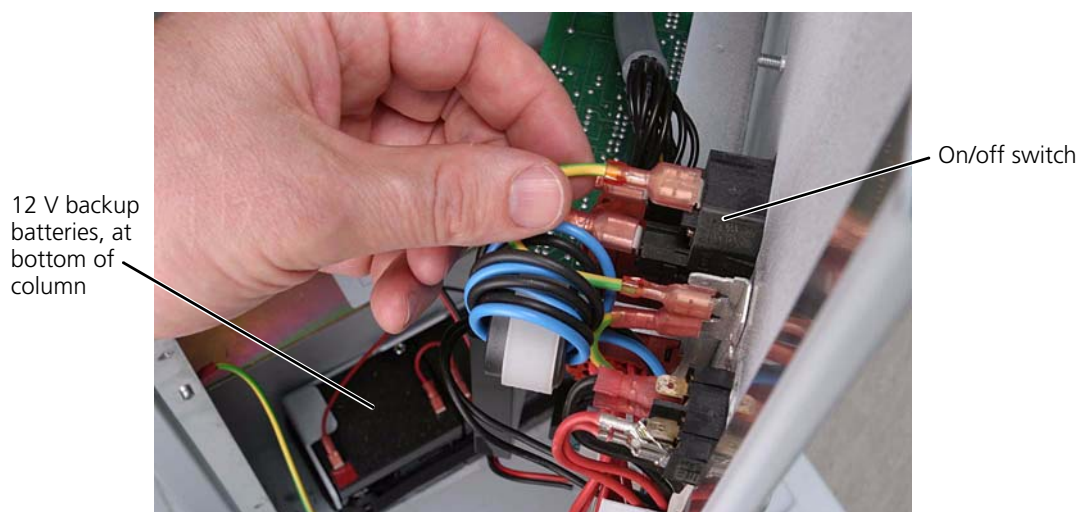

Figure 8-3. Checking the ground wires at the on/off switch
- a. Identify the yellow/green ground wires attached to the on/off switch, and test them for tightness. (Figure 8-3.)